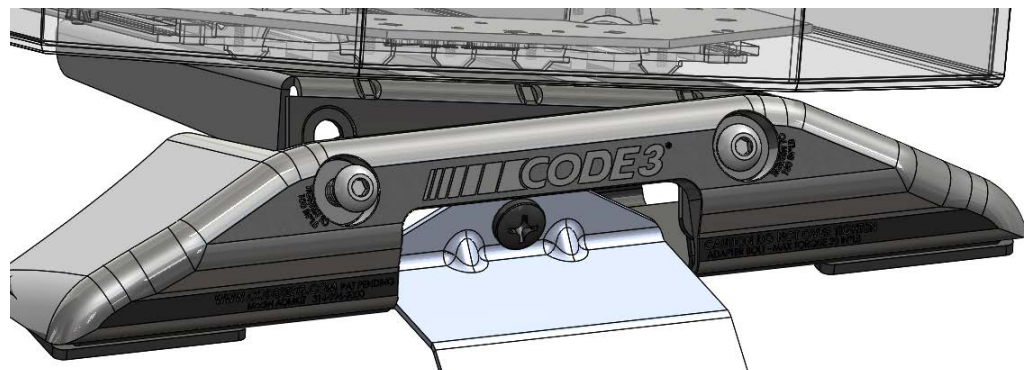

FIGURE 4
5. Adjust the mounting feet to level the lightbar. Loosen the button head cap screws on the sides of the mounting feet and tilt the lightbar until level. Retighten the screws to 180 inch*pounds (15 foot*pounds or 20.3 Newton*Meters). See Figure 4.